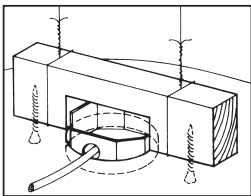

Figure 4
- **Fiberglass Domes:** Thread construction wire through metal straps on back of dome. Attach wires tightly to the overhead joist using screws (*figure 4*).
- **Polyurethane Domes:** Use a wood block, into which the suspension wires are secured. Screw from the inside of the dome through the wood block that is positioned on the topside of the dome (*figures 4 & 5*).